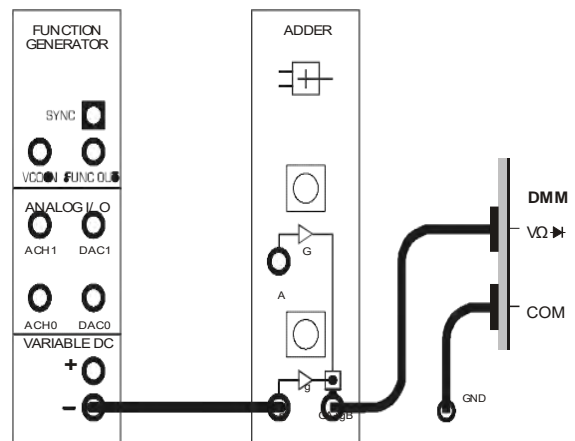

Figure 3
9. Connect the set-up shown in Figure 3 below.